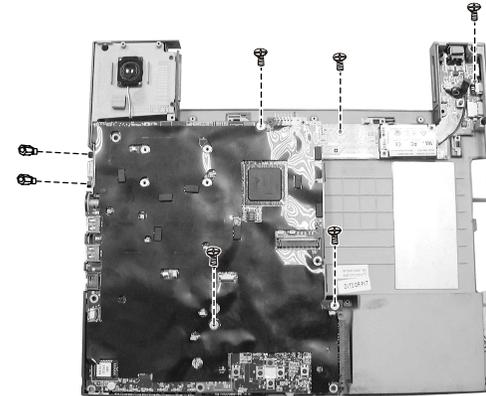

Figure 2-27 Unscrew screws and hex nuts
9. Remove five screws and two hex nuts beside the VGA port. Now you can lift up system board from housing. (Figure 2-27)